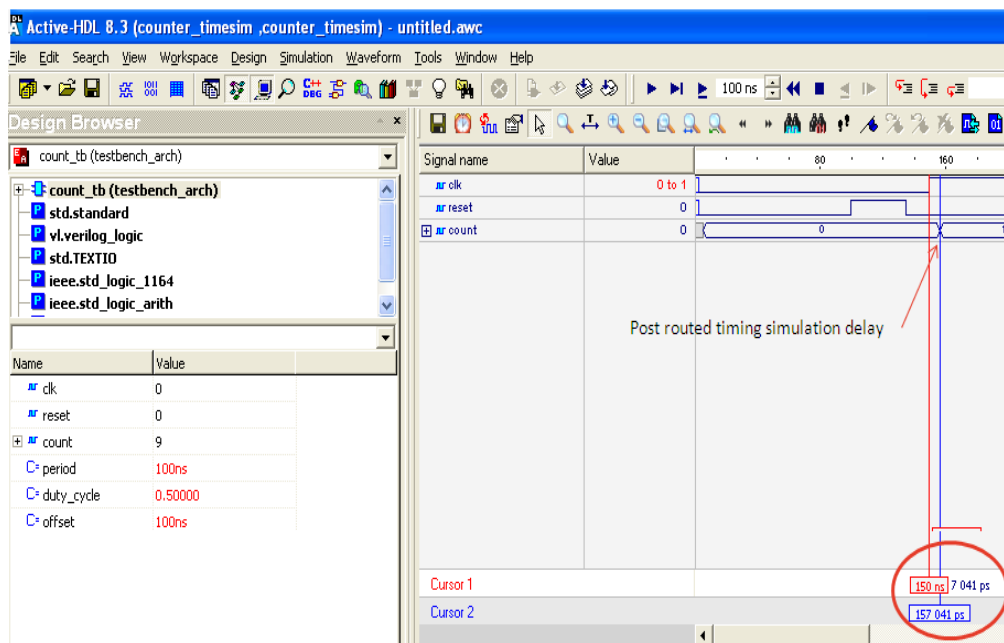

Figure 10-26: Timing Simulation Waveform
12. Type the command “run 1000ns” in the console and press enter. The 1-μs simulation waveform will show up in the waveform window. The counter output timing delays with respect to clock positive edge is shown in Figure 10-26.